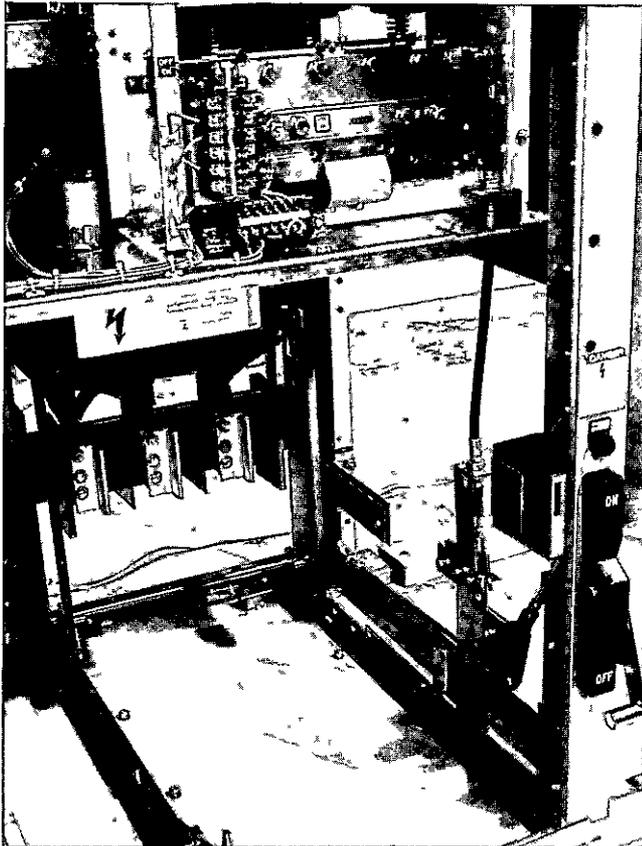

Figure 4. Contactor Interlock
**Contactor Interlock (Refer to Figure 4)**